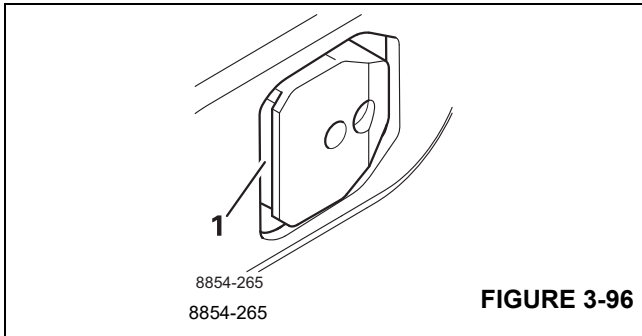

FIGURE 3-96
The cutout (1), (Figure 3-96) must be clear. That is why you have to extend the telescoping cylinder further than with a return run.